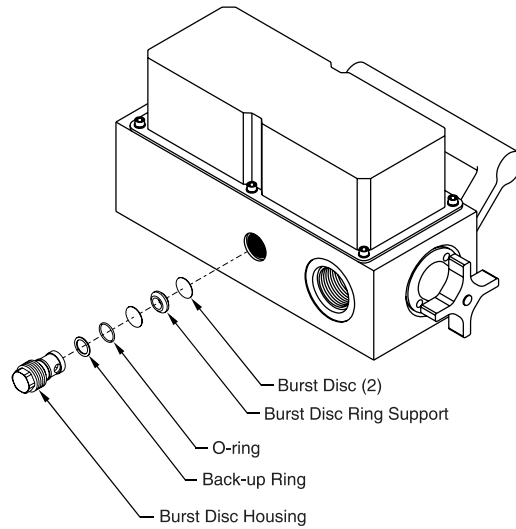

Figure 12: Burst disc replacement
1. Position the Hydraulic System Analyzer to expose the internal burst disc housing as shown in Figure 12.